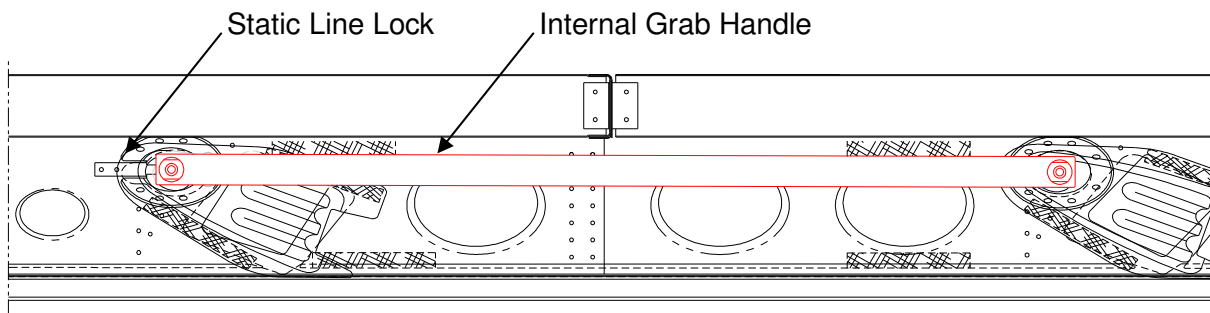

Figure 4: Internal Grab Handle Installation
- 4.2 Slide handle into place. See Figure 4.